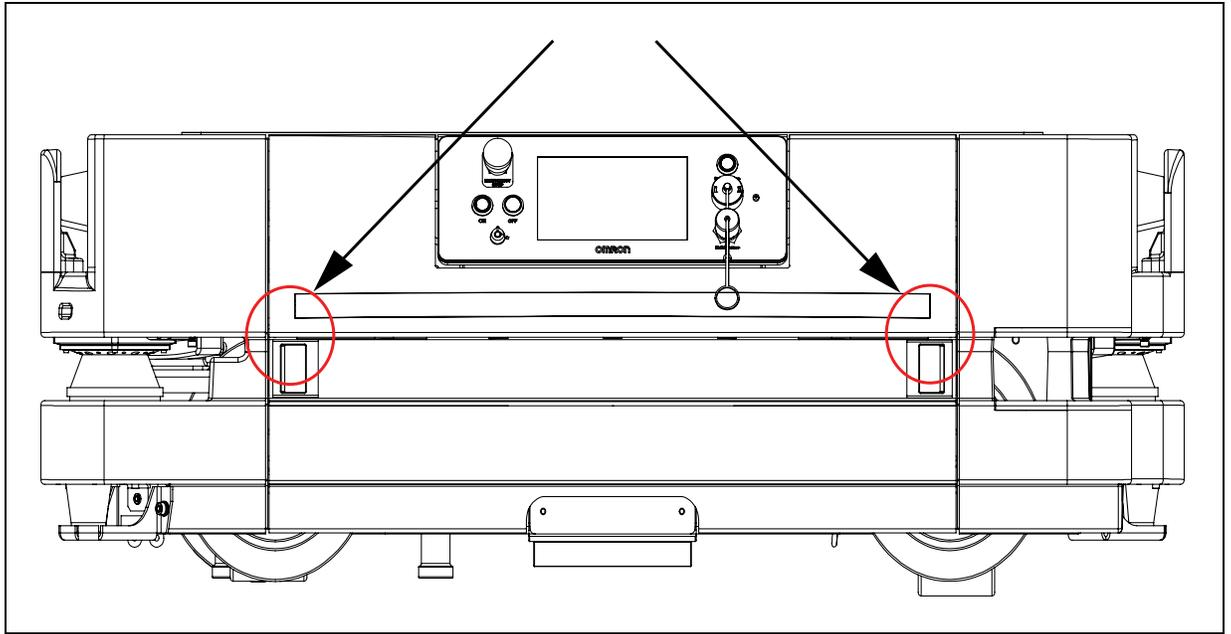

Figure 8-50. Rear Skin Recessed Handles
1. Locate the rear skin latches ((A) in Figure 8-50.) in the laser cut-out groove as shown in the following figure. The latches also act as recessed handles for easy grip.